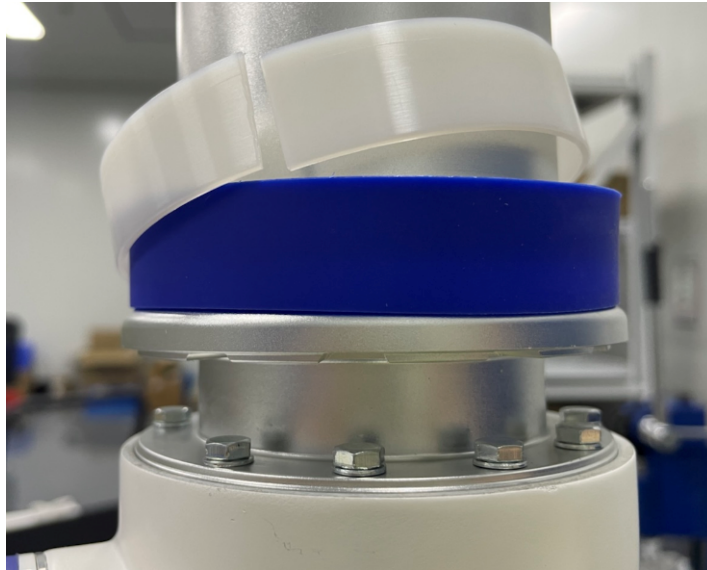

Figure 3-10 : Remove the upper arm rubber ring and the supporting ring
4. Gently remove the rubber ring and hang it around the upper arm. Then remove the supporting ring as shown in **Figure 3-10** :